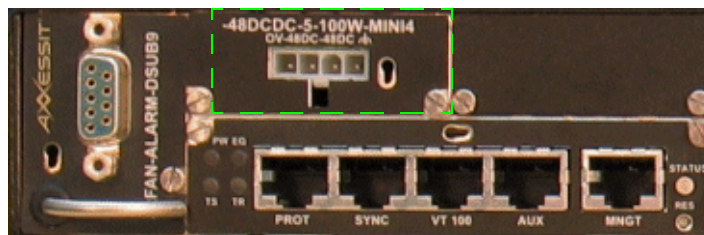

Figure 1-4. AXX155A- Location of power connector
2. Connect the AXX155A power cable (with the ground) to power connector of the back of the AXX155A as shown in Figure 1-4.